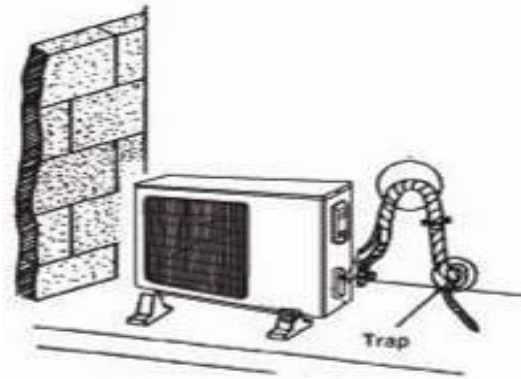

Fig 49
**If the outdoor unit is installed higher than the indoor unit (See Fig.49)**